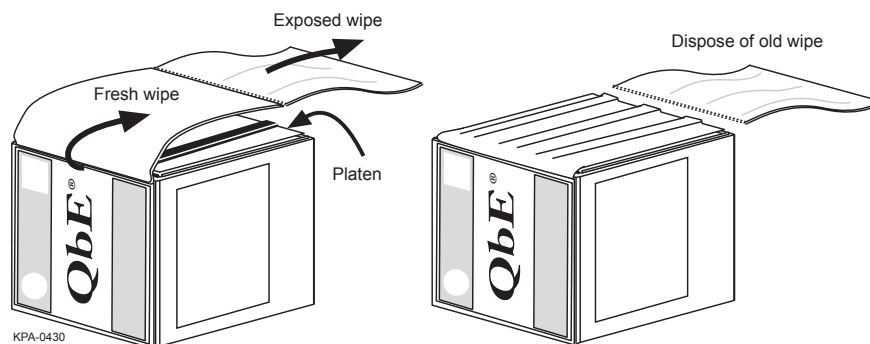

Figure 2
- Pull one length of fresh QbE wipe out of the box and fold it over the fiber-safe foam platen. Tear off the old wipe at its perforations (Figure 2).